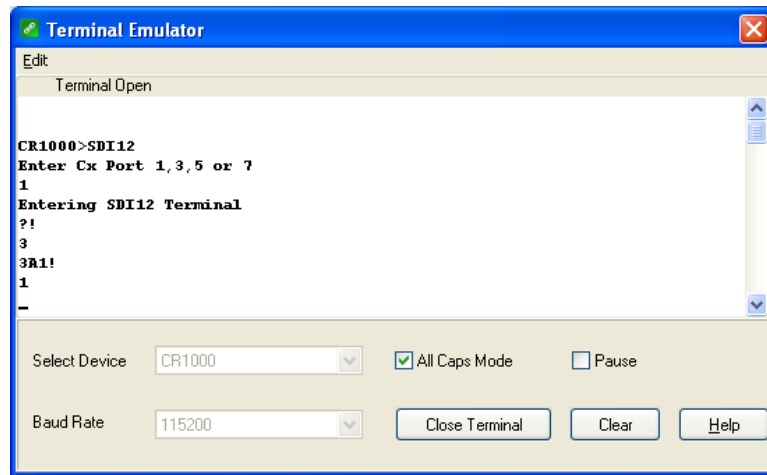

FIGURE D-2. CR1000 example of using the SDI-12 transparent mode to change the SDI-12 address from 3 to 1. Sensor is connected to control port 1.
6. To change the SDI-12 address, key in **aAb!** <enter>, where *a* is the current address from the above step and *b* is the new address (see FIGURE D-2). The OBS501 will change its address and the datalogger will respond with the new address. To exit SDI-12 transparent mode, select the **Close Terminal** button.